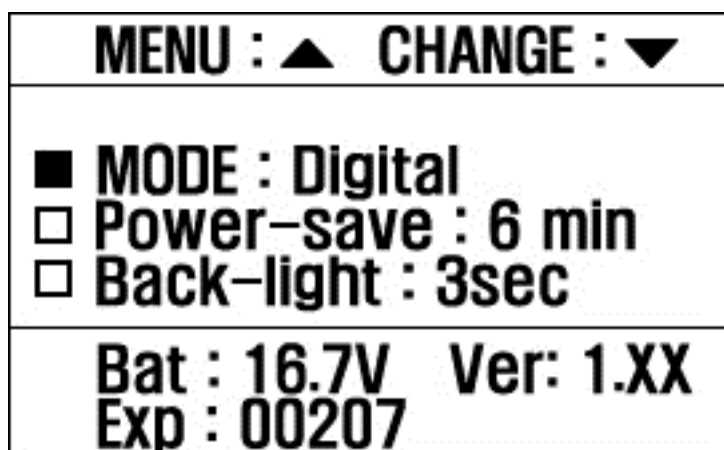

Figure 7.4 Environment setup display
- After turning on the device, press the power button and the ▲ button at the same time to switch to the environment setting display (see Figure 7.4).